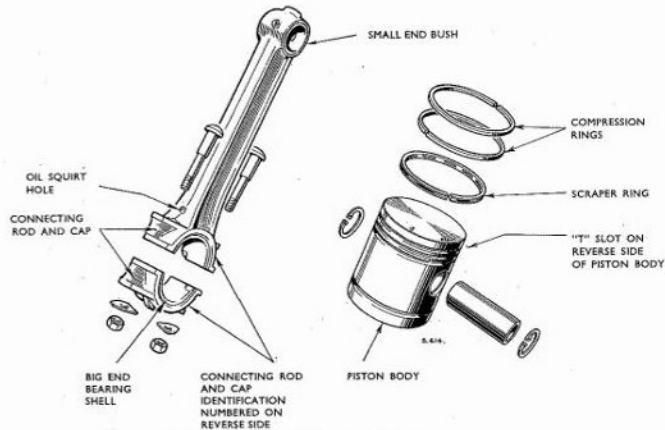

Fig. B.38. Piston and connecting rod details
5. Remove the caps and the bearings. If the original parts are to be used again it is essential that the big end caps be re-assembled to the same rods from which they were removed and the complete rods refitted to the same crankshaft journal. The bearing shells must be kept paired to their respective connecting rod, also maintaining each bearing half in its original position in the big end bore. For the purpose of identification the connecting rods and caps are numbered 1 to 4 from the front of the engine, the number being stamped on the outside of each half of the big end on the opposite side to the oil squirt hole (see Fig. B.38), i.e., to the left hand side of the engine when viewed from the rear.